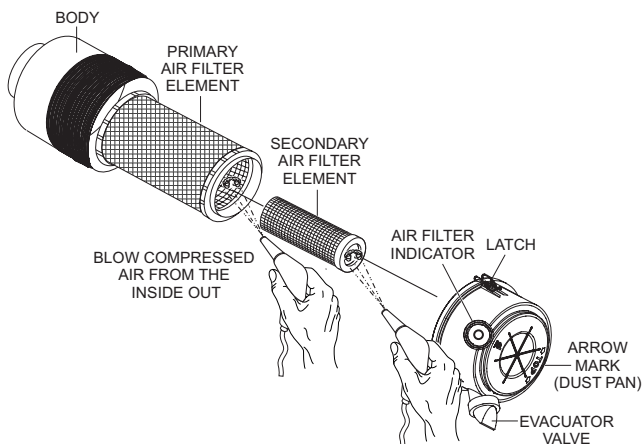

Figure 67. Engine Air Cleaner
The air cleaner (Figure 67) provided with this Isuzu diesel engine is equipped with a replaceable, high-density, paper air filter element. The air cleaner is also equipped with an inner (secondary) element that is used as a backup filter should the primary element become damaged. Check the air cleaner daily or before starting the engine. Replace the air cleaner as needed.
1. Release the latches that secure the cover to the air cleaner body (Figure 67).
2. Remove the air cleaner cover (Figure 67) and set it aside.
3. Remove both the primary and secondary air cleaner elements (Figure 67).
5. To clean the primary element (paper air filter) as shown in Figure 67, tap the filter element several times on a hard surface to remove dirt, or blow compressed air, not to exceed 30 psi (207 kPa, 2.1 kgf/cm²), through the filter element from the inside out.
8. Clean the inside of the air cleaner body (Figure 67).